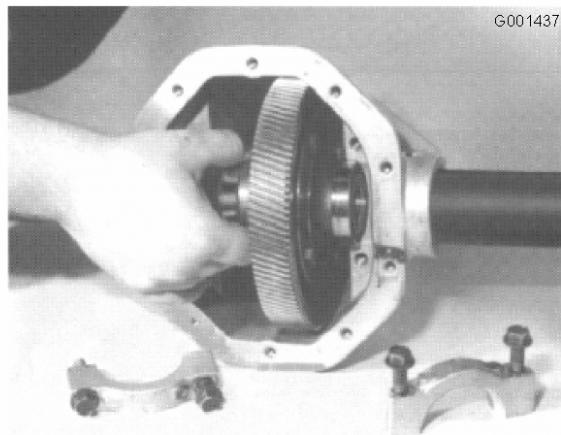

Figure 9
- 5. Remove the differential assembly (Figure 9).